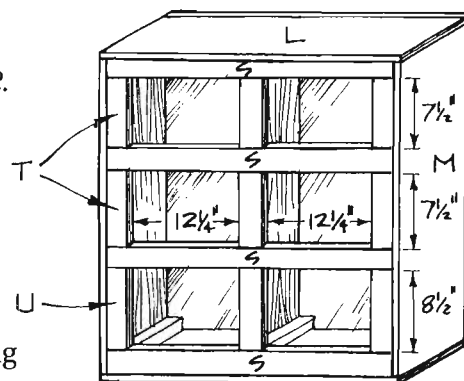

Figure 12
1. The front of the drawer housing consists of rails (horizontal members) and stiles (vertical members). These are the finished front of the drawer housing and also accommodate the drawers. A diagram of the rails and stiles is shown in *Figure 12*. It is very important that all of the stiles and rails are installed exactly square, or your drawers will not fit properly.
2. Cut four rails (S) from 1 x 4 pine, each 35 inches long.
3. Cut six upper stiles (T) from 1 x 4 pine, each 7-1/2 inches long.
4. Cut three lower stiles (U) from 1 x 4 pine, each 8-1/2 inches long.
5. Attach the four rails (S) to the front of the completed housing, paying particular attention to the spacing between them. The four upper openings must be exactly 7-1/2 by 12-1/4 inches, and the lower two openings must be exactly 8-1/2 by 12-1/4 inches, as shown in *Figure 12*. All four of the rails (S) fit inside the exposed edges of the housing sides (M), top (L), and bottom (L). The rails cover the exposed edge of the center divider (P), leaving a 2-inch allowance at the front. Glue and screw them in place with 2-inch-long
6. Attach the six upper stiles (T) as shown in *Figure 12*. They fit flush with the rails and cover the exposed edge of the center divider (P). Glue and screw them in place, screwing through the stiles and into the center divider (P) or side supports (R). Again use 2-inch-long screws. Toenail each of the upper stiles (T) to the adjoining rail (S).
7. Attach the three lower stiles (U) as shown in *Figure 12*. They also fit flush with the rails, and cover the exposed edge of the center divider (P). Glue and screw them in place, screwing through the lower stiles (T) and into the center divider (P) or the side supports (R). Toenail each of them to the rails (S) above and below.